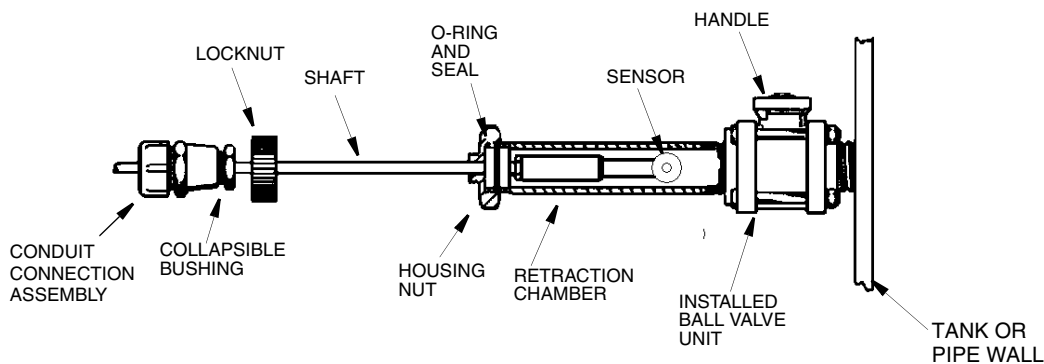

Figure 7. Ball Valve Assembly Shaft Installation and Removal
5. Carefully insert the sensor (connected to the insertion shaft assembly) into the housing retraction chamber until the O-ring and seal are seated into the end of the chamber (see Figure 7).
Do not loosen the **housing nut** (see Figure 7) when the ball valve unit is open and the process line or tank is filled and pressurized. Severe injury to personnel may result.